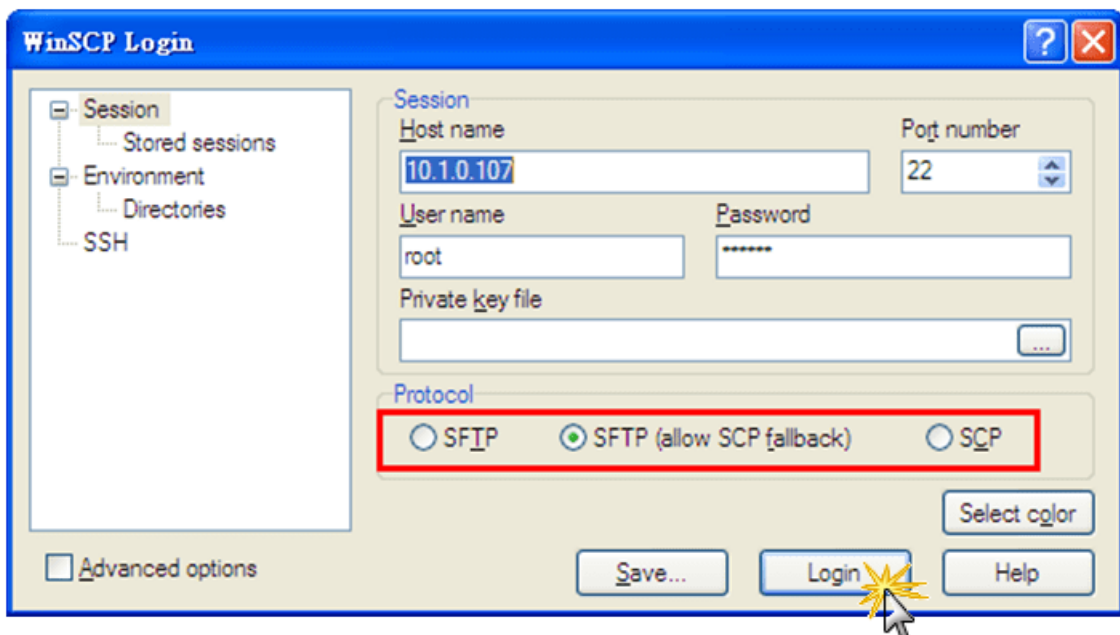

Figure 5.2-1. Using Windows Program 'WinSCP' to access the device over network
1. Choosing the 'SFTP' or 'SCP' protocol and type IP address, default ID(root) and password(icpdas) to login. (Refer to Figure 5.2-1)